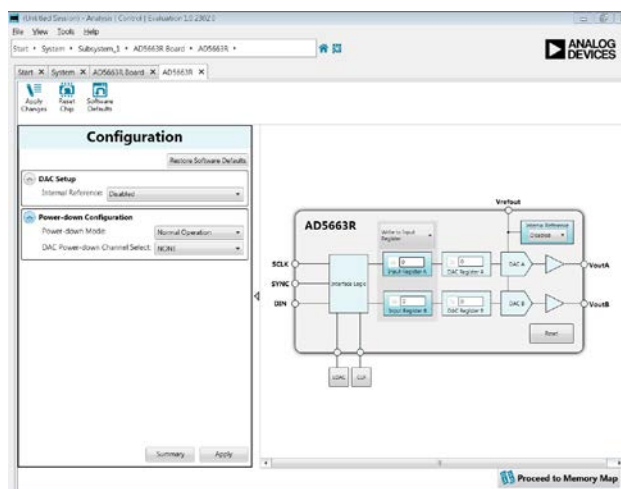

Figure 3. Chip Block Diagram view for the AD5663R
5. The chip block diagram can be accessed by double-clicking on the AD5663R or AD5667R chip. This view provides a basic representation of functionality of the board. The main functions are labeled in Figure 3.